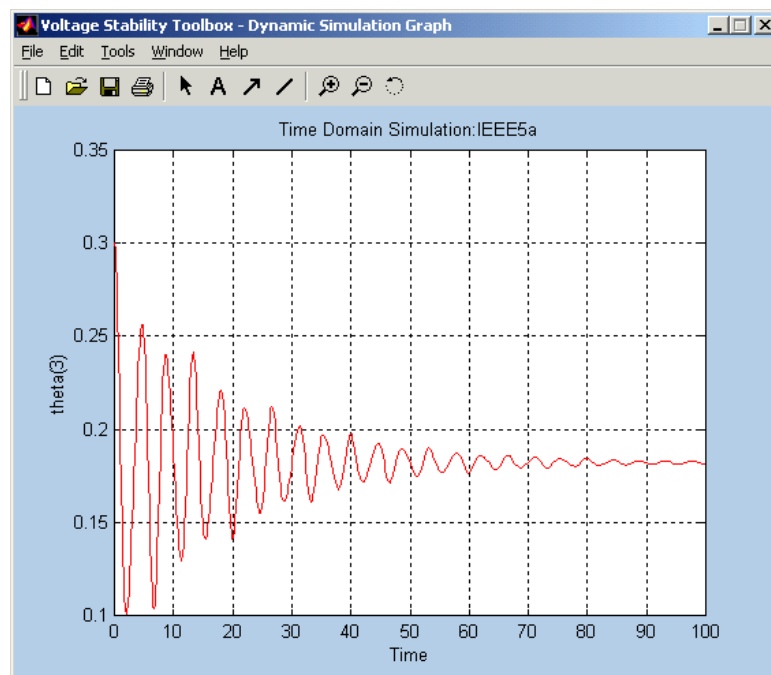

Fig. A.23 A typical result of the time-domain analysis
- Select a state variable (i.e., Selected Variable: theta (3)) and push to the Plot button to obtain the dynamic behavior of the selected state variable. An example of the simulation result is shown in Fig. A.23.